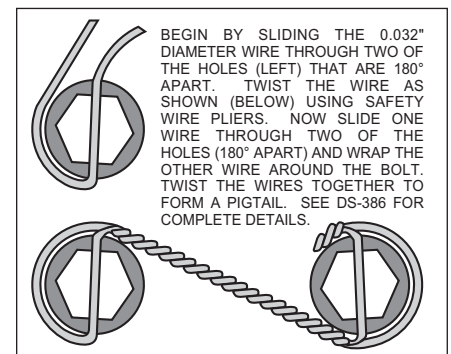

Figure 6. Safety Wire Diagram
- Align the correct hole pattern in the rotor (3) with the stud pattern on the axle flange. **NOTE:** Some OEM and after market axles come with stud sizes larger than 0.50” diameter. Verify stud size and have a qualified machine shop drill the bolt circle of the rotor to the correct stud size, if necessary. Slide the rotor (3) over the wheel studs covering the mounting bracket assembly (1) and against the axle flange face.
- NOTE:** Please reference the caution statement at the beginning of the assembly instructions. **WITH THE BLEED SCREWS POINTING UP,** mount the caliper (4) over the rotor (3) and onto the caliper mounting bracket (1) using lock washers (5) and mounting bolts (6). View the rotor through the top opening of the caliper. The rotor should be aligned in the center of the caliper. If not, adjust the caliper by using 0.032 inch shims (7) by placing them between the caliper mounting bracket (1) and the caliper (4). Apply red *Loctite*® 271 to the mounting bolt threads (6), torque to 30 ft-lb. Safety wire the caliper mounting bolts (6) using standard 0.032 inch diameter stainless steel safety wire as shown in Figure 6. Please refer to Wilwood’s data sheet DS-386 (available at [www.wilwood.org/ds386.pdf](http://www.wilwood.org/ds386.pdf)) for complete safety wire installation instructions.
- Position the Wilwood disc brake pads (8) into the caliper (4) and fasten with cotter pin (9). Steel backing plate side of brake pad should face the caliper pistons.
- Before final installation of the wheel, install a couple of lug nuts and adjust the parking brake shoes outward (using a drum shoe adjustment tool available at your local auto parts store) while spinning the rotor/hat (3) until a slight drag is felt again the hat/drum.